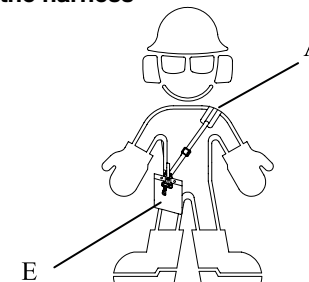

Fig.7-2
1. As shown in the diagram, adjust the harness (A) so that hip pad (E) is against your right hip. (Fig.7-2)